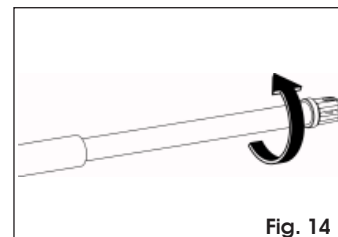

Fig. 14
6. Turn the operator's rod clockwise by a half/full turn, Fig. 14, to retract the rod.